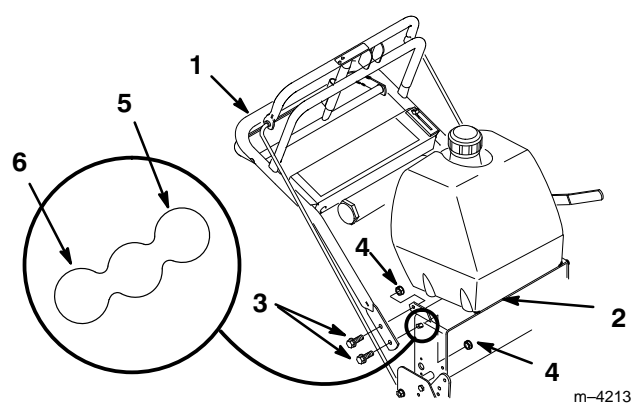

Figure 2
1. Position handle outside frame and align upper handle mounting holes with desired mounting holes in rear frame. High, medium or low according to operators height (Fig. 2).
2. Secure each side with (2) 3/8–16 x 1" (26mm) bolts and (2) 3/8–16 locknuts (Fig. 2).